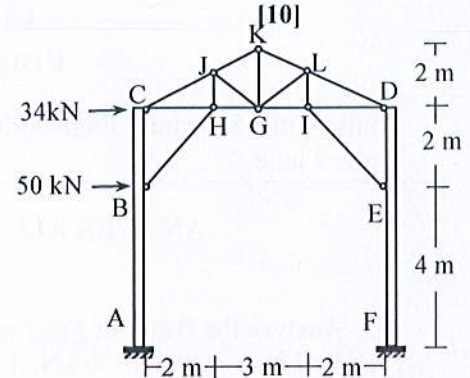

Fig.6
6. Analyze the mill bent shown in **Fig.6**, using Portal Method to obtain the reactions at support A and F of Also, obtain the force in members BH and CJ. [05]